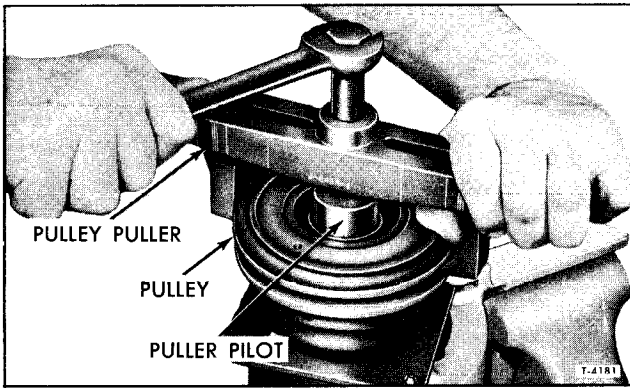

Figure 40-Removing Pulley
4. Place puller pilot (J-9395) over the compressor shaft and pull off the pulley assembly using (J-8433) pulley puller (figure 40).